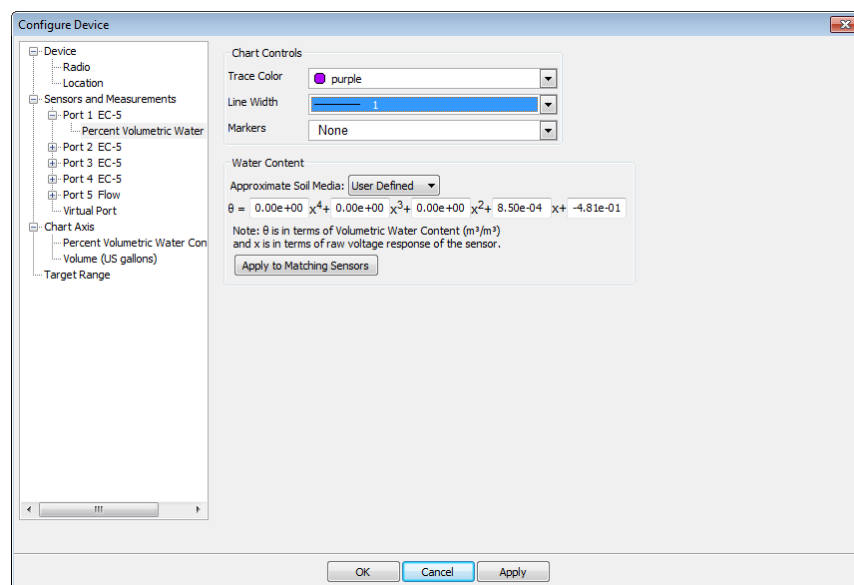

Figure 8. The Configure Device window showing option for entering custom calibration coefficient.
- Click on the parameter name and select the trace color, line width and markers desired on the right (Figure 8). These selections will be displayed when data is displayed in chart view.
- For sensors that need custom calibration (such as soil moisture sensors), select the “User Defined” option from the “Appropriate Soil Media” drop down menu (Figure 8).